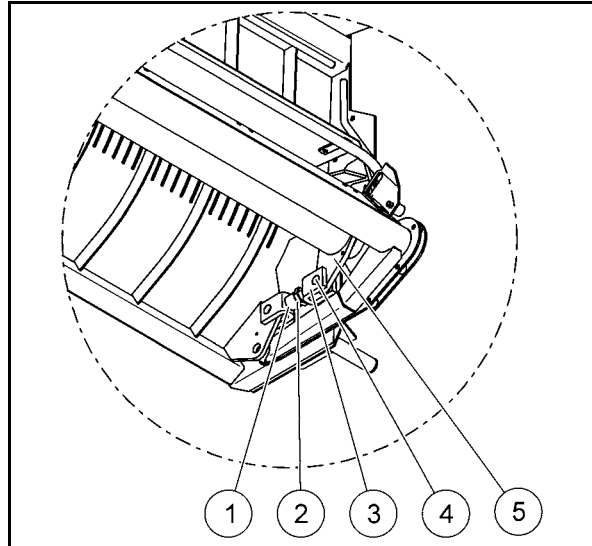

Fig. 140
- the distance between the cutting knives (1) and the rotor (2) from the cargo space through the slots of the conveyor duct.
5. Adjust the distance between the cutting knives and the rotor at the respective upper link (Fig. 140/1) on the right-hand and left-hand side of the machine if the measured value is not approx. 20 mm.
- 5.1 Unscrew the counter nut (Fig. 140/2).
- 5.2 Remove the bolt (4) to loosen the upper link fork (Fig. 140/3) from the receiver pipe (5).